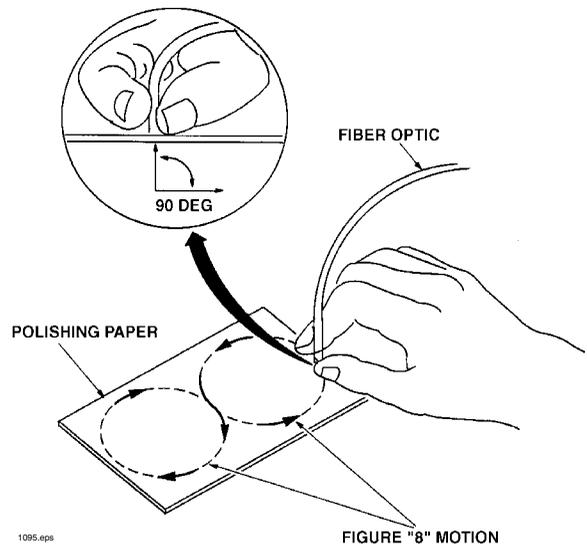

Figure 6.3 Position and pattern of the optical fiber during polishing.
15. Hold the 1-meter fiber upright, at right angles to the polishing paper, and polish the fiber tip with a gentle "figure-8" motion as shown in **Figure 6.3**. You may get the best results by supporting the upright fiber against some flat object such as a small piece of wood. Complete about 20 "figure-8" strokes. It isn't necessary to press down on the fiber — just make gentle contact between the fiber and paper.
18. Take the 2-meter fiber end just polished on the 2000-grit paper and polish it using the 3 μm polishing film. Use 20 of the same "figure-8" strokes depicted in **Figure 6.3**.